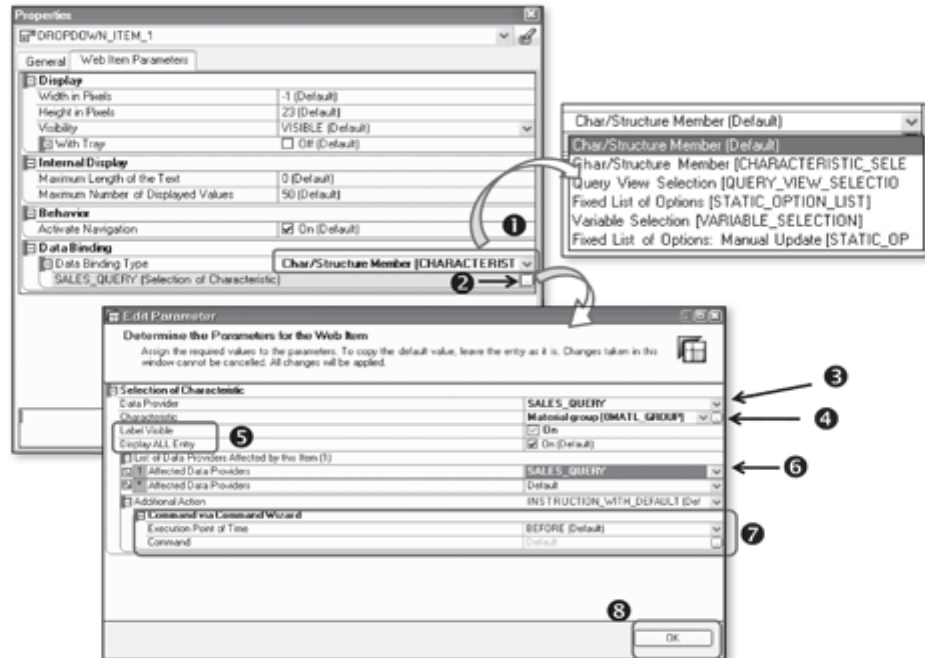

Figure 11.8 Maintain Properties of Dropdown Box
To define the Selection of Characteristic for the dropdown, click on the button shown in ② of Figure 11.8. The Edit Parameters box appears. You maintain the characteristic selection and set the following for Selected Characteristic:
- ▶ Data Provider (see ③ of Figure 11.8): The data provider from where the dropdown box should read the characteristic value.
- ▶ Characteristic (④): Select the specific characteristic that will be assigned to the dropdown. Input help is available for this parameter.
- ▶ Display parameters settings (⑤): The display-related settings, such as whether the label of the characteristic should be visible or not, and whether to display the ALL entry, are maintained on this screen.
- ▶ Affected Data Providers (⑥): This is one of the most important settings for the dropdown box because it determines which data providers within the web template should change per the specific value selected in the dropdown. If there are multiple data providers in the query, and you want more than one data provider to change due to the dropdown, you can maintain a list of different data providers under the Affected Data Providers section.
- **Command via Command Wizard (②):** Command Wizard is one of the most powerful features available in the web application designer. It enlists many useful commands that can be used to assign a specific action to a web item. For example, set the exceptions to inactive state whenever a value is selected in the dropdown box. The details about the Command Wizard and the different available commands are discussed in later sections of this chapter.